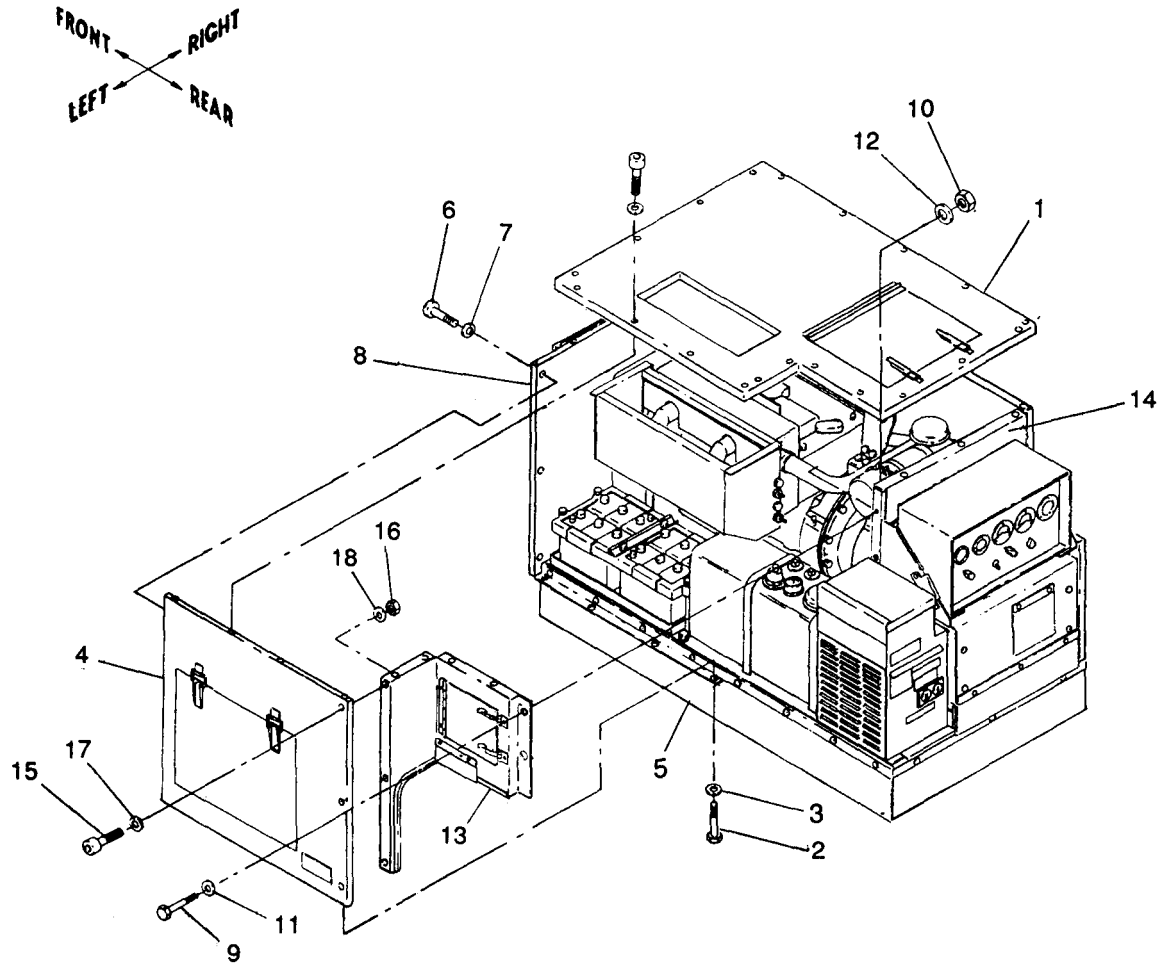

Figure 5-4. Left Panel Assembly and Side Closure Assembly, Removal and Installation
a. Removal. See figure 5-4. Remove left panel assembly with side closure assembly from top panel, front panel, left support and rear closure assemblies as follows:
(1) Remove top panel assembly (1) as described in paragraph 5-4.
(2) Remove four screws (2) and washers (3) securing left panel assembly (4) to left support assembly (5).
(3) Remove three screws (6) and washers (7) securing left panel assembly (4) to front panel assembly (8).
(4) Remove two screws (9) and locknuts (10), and four washers (11 and 12) securing side closure assembly (13) to rear closure assembly (14) and lift off left panel assembly (4) with side closure assembly (13) .
(5) Remove three screws (15) and locknuts (16), six washers (17 and 18) securing side closure assembly (13) left panel assembly (4).
b. Installation. See figure 5-4. Install left panel with side closure assembly to top panel, front panel, left support and rear closure assemblies as follows:
- (1) Install three screws (15) and locknuts (16) and six washers (17 and 18) securing side closure assembly (13) to left panel assembly (4).
- (2) Torque screws (15) to 16  $\pm$ 2 ft-lbs dry.
- (3) Position left panel assembly (4) with side closure assembly (13) on generator and install two screws (9) and locknuts (10) and four washers (11 and 12) securing side closure assembly (13) to rear closure assembly (14).
- (4) Torque screws (9) to 16  $\pm$ 2 in.-lbs dry.
- (5) Install three screws (6) and washers (7) securing left panel assembly (4) to front panel assembly (8).
- (6) Torque screws (6) to 18  $\pm$ 2 in.-lbs dry.
- (7) Install four screws (2) and washers (3) securing left panel assembly (4) to left support assembly (5).
- (8) Torque screws (2) to 18  $\pm$ 2 in.-lbs dry.
- (9) Install top panel assembly (1) as described in paragraph 5-4.